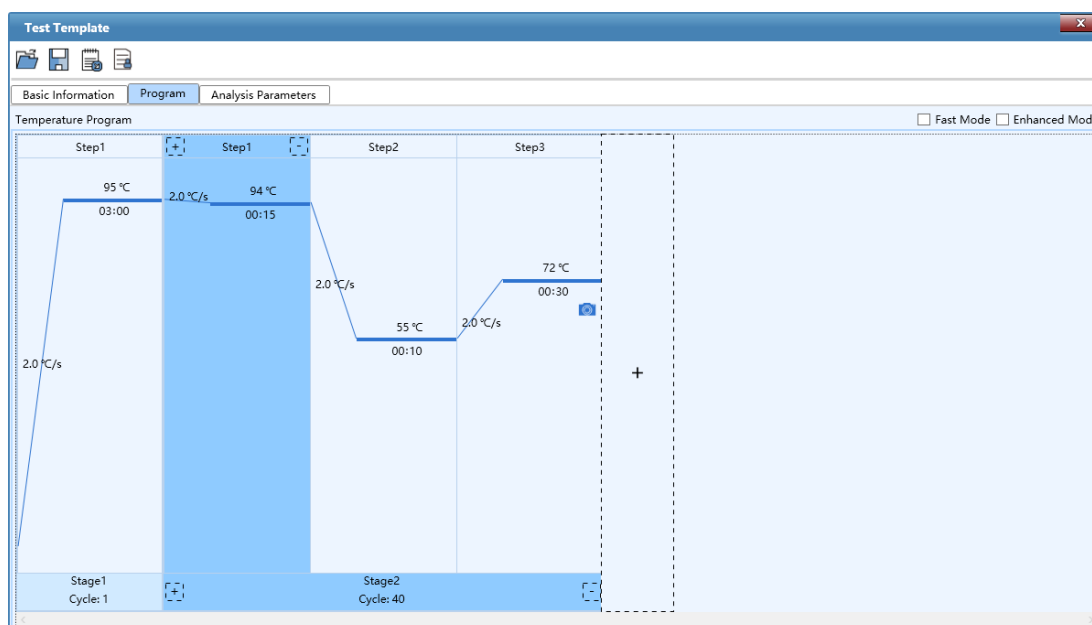

Figure D-3.5b. Research Report Interface – Program
► **Program** tab: is as shown in figure D-3.5b.